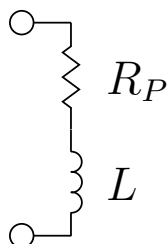

Figure 1: An inductor, L , with parasitic resistance R_P .
Exercise. Compute the magnitude of the total impedance for a $1.0\ \text{mH}$ inductor with a parasitic resistance of $30\ \Omega$ at a frequency $f = 500\ \text{kHz}$. Since inductors typically are coils comprised of many turns of thin wire, it is not uncommon to have such a parasitic resistance. The schematic of such a component is given in figure 1.
4. You might also have observed a divergence of the empirical and theoretical impedances of the inductor at high frequencies. The parasitic resistance model (figure 1) explains the divergence at low frequencies. In your journal, sketch a model of an inductor that could explain the high frequency divergence.